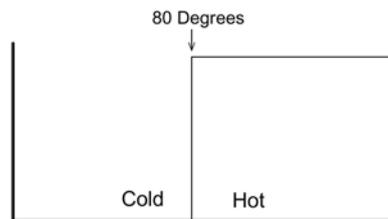

Fig. 17-7. Boolean hot or cold.
*Fuzzy logic* is the insecure cousin of Boolean logic. Boolean thinking is crisp and precise, definite. The temperature *is* hot or the temperature *is* cold. Fuzzy logic allows the temperature to be *mostly* hot but still a *little bit* cold. Boolean logic can be seen as a graph like Fig. 17-7. The moment the temperature passes the 80 degree mark it is suddenly 100% hot. Pow!